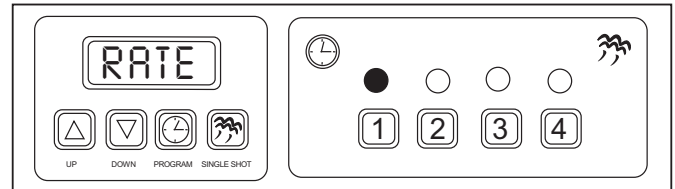

Figure 5. RATE Mode on Menu 1
**RATE (Shot Interval Time)** is the time set between each shot of steam during a complete cycle (Figure 5).
6. While in Program mode (press the PROGRAM button if not in this mode), press both the UP and DOWN arrow buttons simultaneously. RATE will appear in the display for a moment (Figure 5).